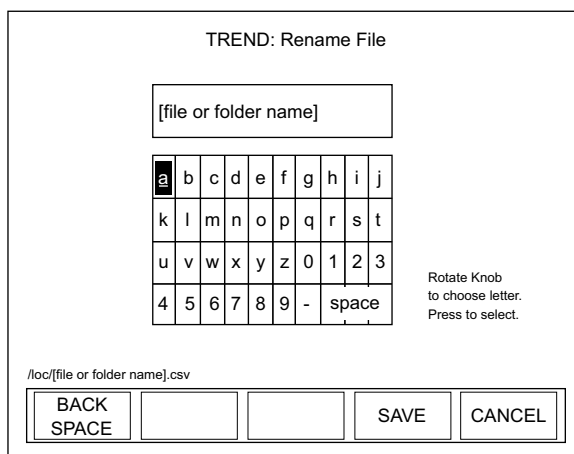

Figure 4-33. TREND: Rename File or Folder
2. Press the RENAME soft key to display a screen similar to the one shown in Figure 4-33.